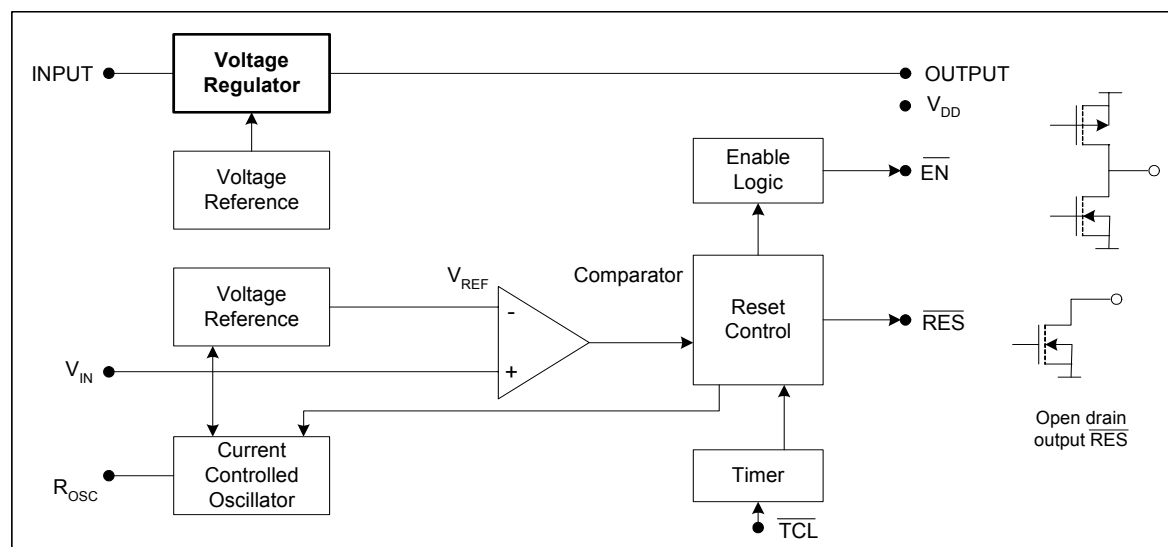

Fig. 3
**Note 4:** the comparator and the voltage regulator have separate voltage references (see "Block Diagram" Fig. 3).